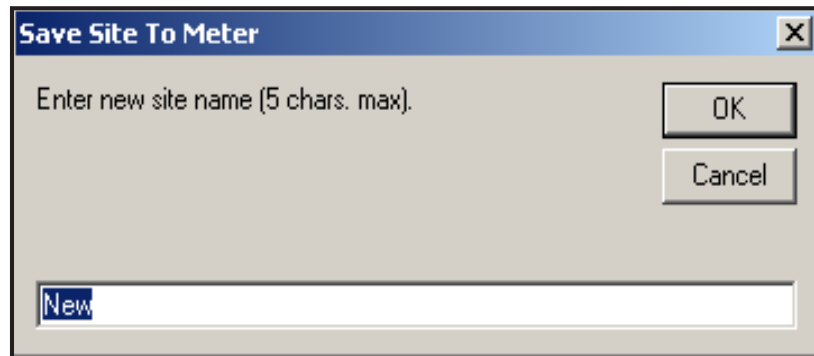

Figure 50: Site Name Entry Window
2. A window opens similar to Figure 50. Enter the desired name, and click [OK].